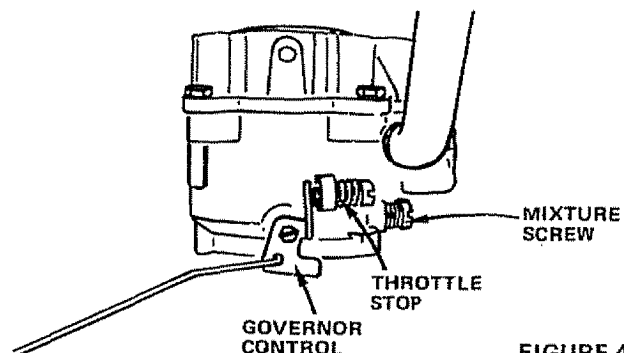

FIGURE 49
- a. Gently turn idle mixture valve clockwise (↻) Fig. 49 until it just closes and then counterclockwise (↻) 1 1/2 turns.
- d. Hold governor control lever against idle speed screw, and adjust idle speed screw to obtain 1200 to 1400 RPM. Fig. 49.